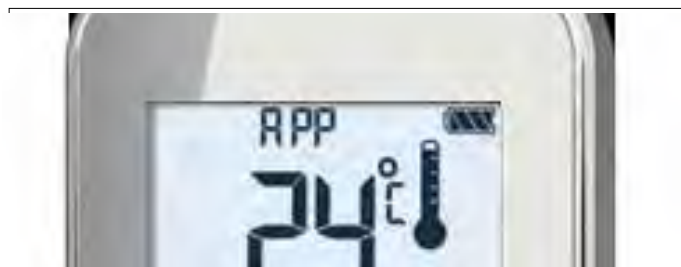

Figure 5: App connected (in Thermostatic Mode)
- If Thermostatic, Program, or Eco Mode is activated using the app, the corresponding icon and "APP" is displayed on the Handset (see figure 5).